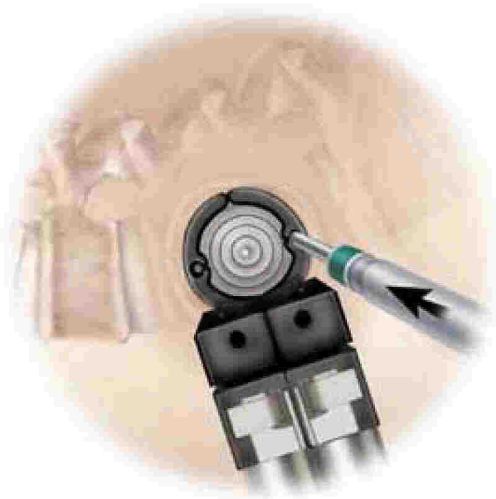

Figure 23
**Step 5** Insert a Stability Pin through one of the retractor blades to help prevent retractor migration during the procedure (**Figure 23**). Use the Stability Pin Driver to thread the pin in the channel of whichever blade is closest to the end plate (**Figure 24**).